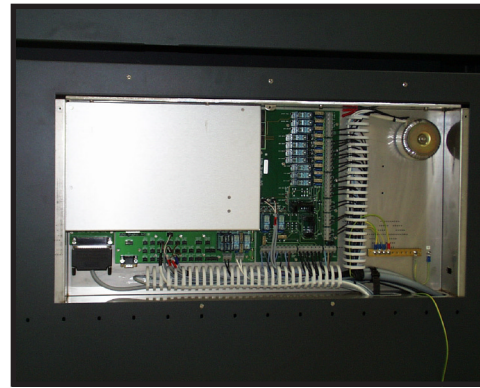

Fig. 1 The main board
2. Remove the front cover placed in front of the main board on the side plate. See fig. 1.